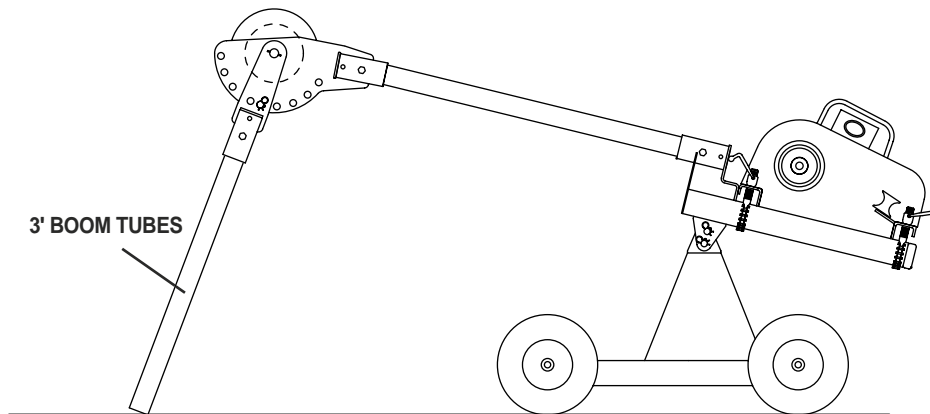

figure 20b
6. Next, insert the two 3' boom tubes into the pivoting section of the elbow unit. Check the sight holes to ensure the boom tubes are completely inserted and tighten the hex bolt on each side of the elbow unit. (See *Figure 20b.*)